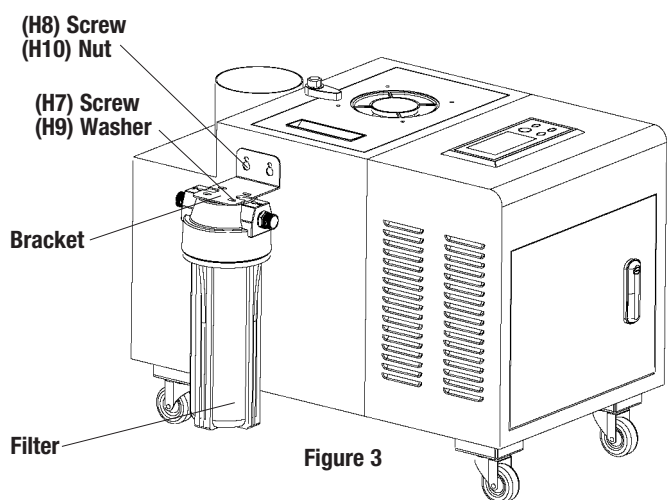

Figure 3
Install water filter using the mounting bracket as illustrated in Figure 3. The filter enables the humidifier's water system to run smoothly, and prevents water impurities from flowing into the unit blocking the solenoid valve and clogging the system.
- Using the four supplied screws, attach the filter underneath the bracket (Figure 3).